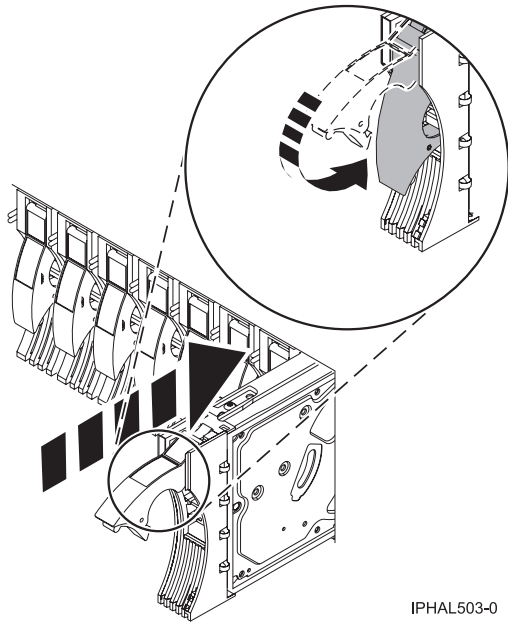

Figure 40. Installing a disk drive in a model
6. Install the disk drive as shown in Figure 40 on page 43.